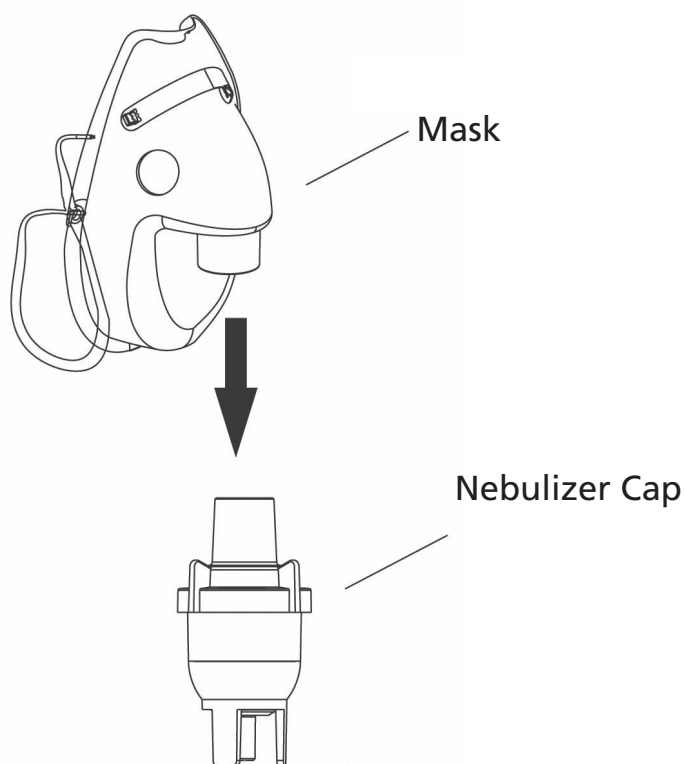

Figure 4
7. If using the mask, press it directly into the outlet of nebulizer cap.(Figure 4).